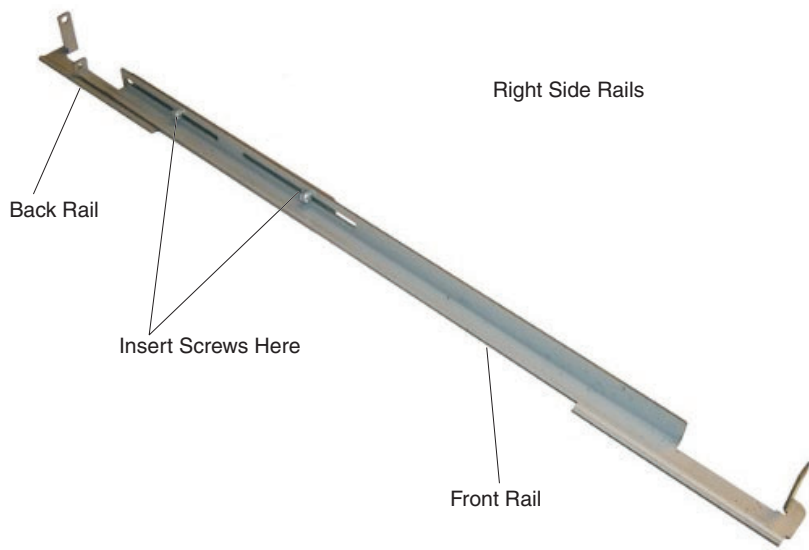

Figure 7. Assembling the right side rail
- ___ 4. Assemble the rails for the right side in the same way (see Figure 7 on page 10).